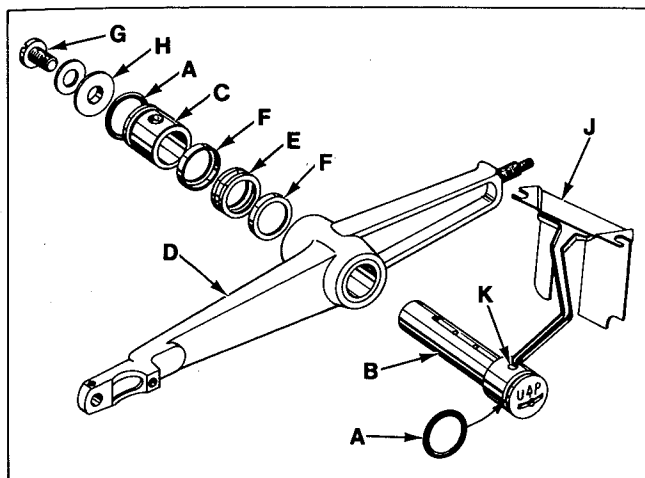

Fig. 20
1. Install "O" rings (A, Fig. 20) onto needle lever stud (B) and thrust collar (C).
2. With needle lever (D) in machine and positioned properly; insert stud (B) through hole in needle lever until its shoulder contacts the needle lever and the word "UP" on stud is in the upright position. While making sure no binding exists in the needle bar link, secure stud (B) with the front set screw in top of machine bed.
3. Install temper load ring (E) and compression cups (F) onto stud (B), then push ring and cups through opening in machine bed.